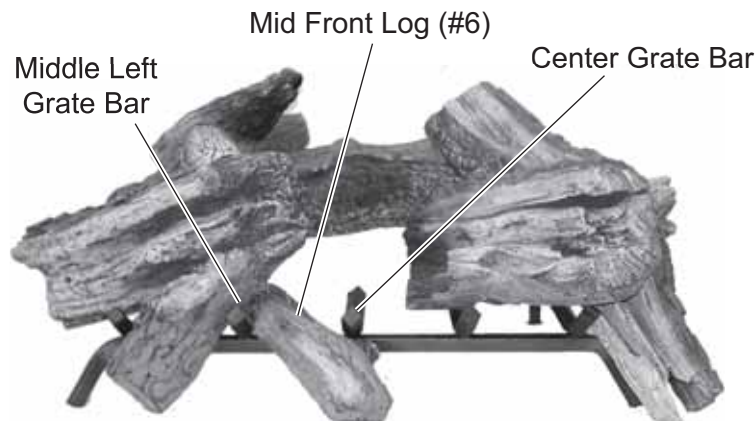

Figure 136 - Placing Mid Front Log (#6) on Grate Between Center and Middle Left Grate Bars.
7. Place Mid Front Log #6 on grate between center and middle left grate bars. Fit notch on back of log on the cross grate bar. *See Figure 136.*